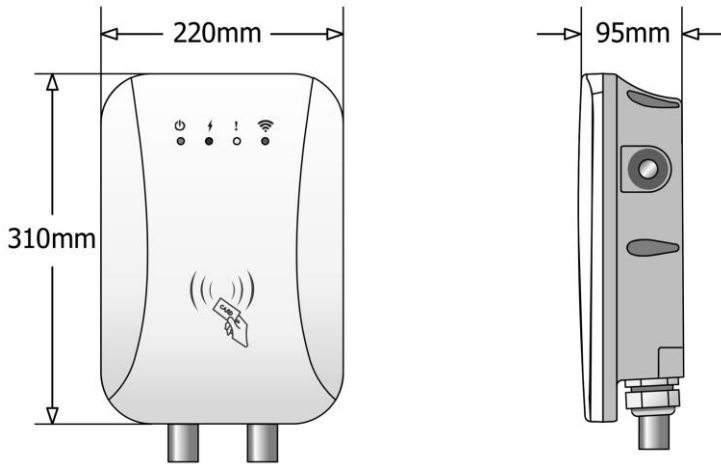

Fig. 4-1 The shape & dimensions of HP10 series
- The shape & dimensions of AC EV charging station shown as Fig. 4-1.